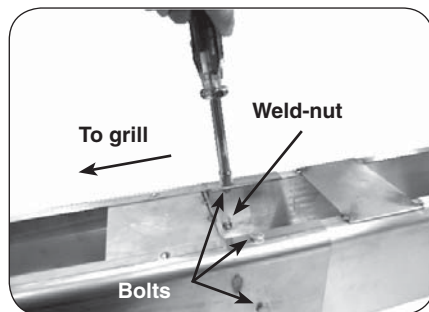

Fig. 10-4 Fasten extension to post
2. From outside the joined post and extension, insert one of the 1/4 X 20"-5/8 bolts (supplied) into each of the five (5) bolt holes and tighten each using a 7/16" socket driver or wrench (see Fig. 10-4).